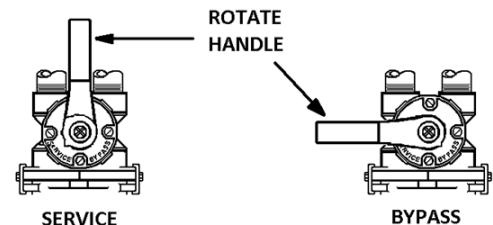

FIGURE 3: Bypass Valve
STEP 10: Open bypass valve $\frac{1}{4}$ of the way allowing unit to pressurize slowly. It is normal for air to be trapped in the top part of the filter tank. Once the tank is pressurized, place bypass fully in the Service position (figure 3, page 4).